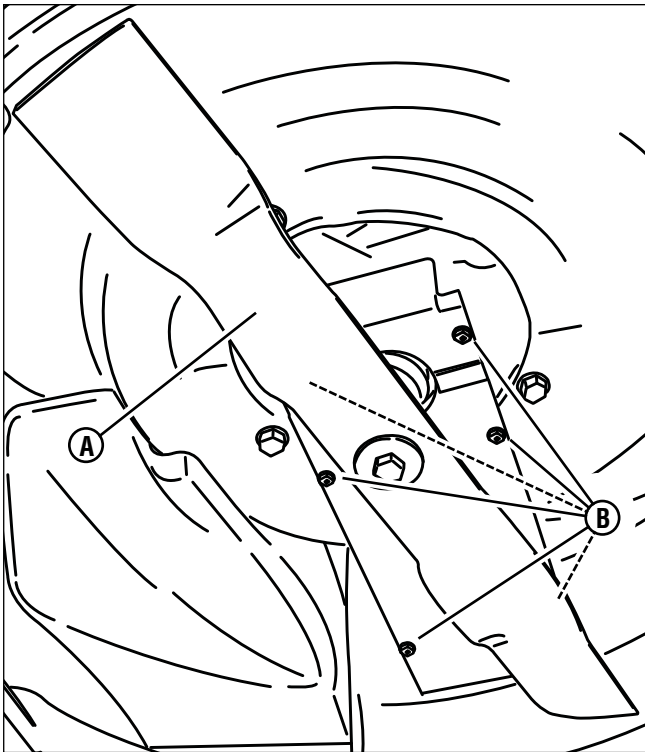

Figure 21: Removing the blade and belt cover
2. Remove the blade (**A**, **Figure 21**). Refer to the Section entitled "Blade Sharpening".